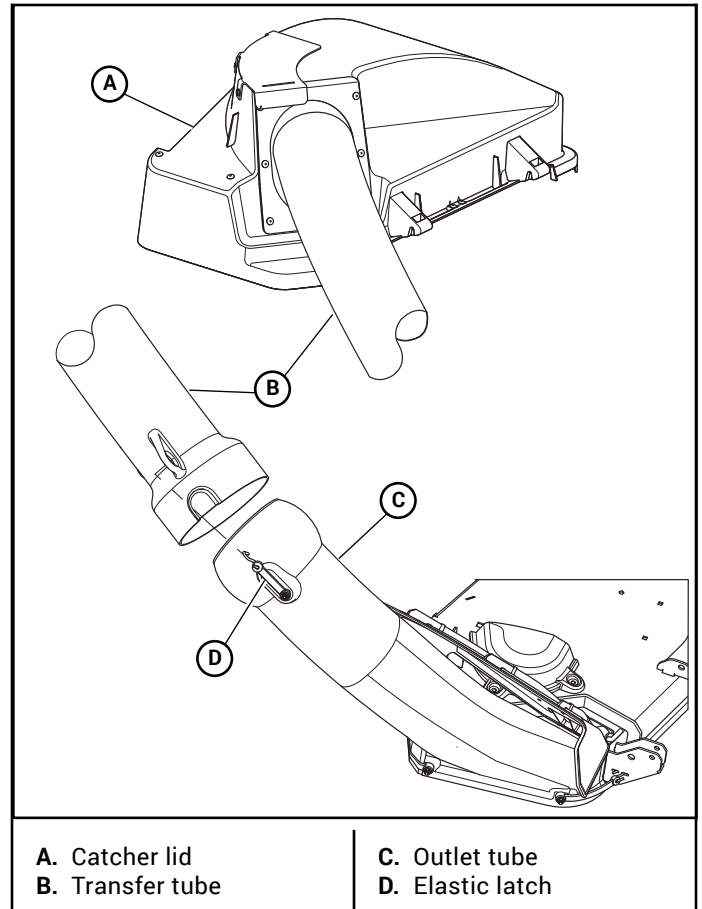

Figure 3-15
18. Slide the end of the transfer tube into the opening in the catcher lid. Figure 3-15